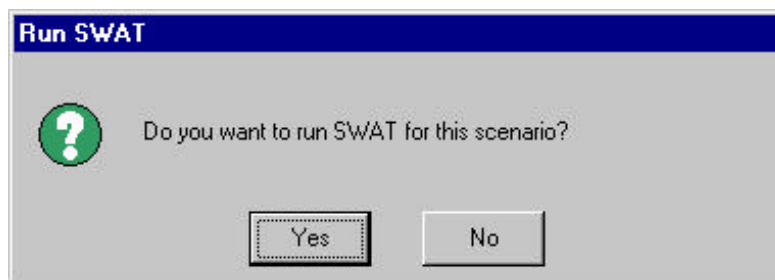

Figure 13.42
16. Once all changes are made, a prompt box is displayed (Figure 13.42).